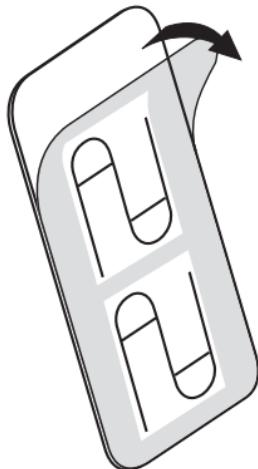

Fig. 1
3. Peel and remove the backing from the Fiber Clip. (**Fig. 1**)